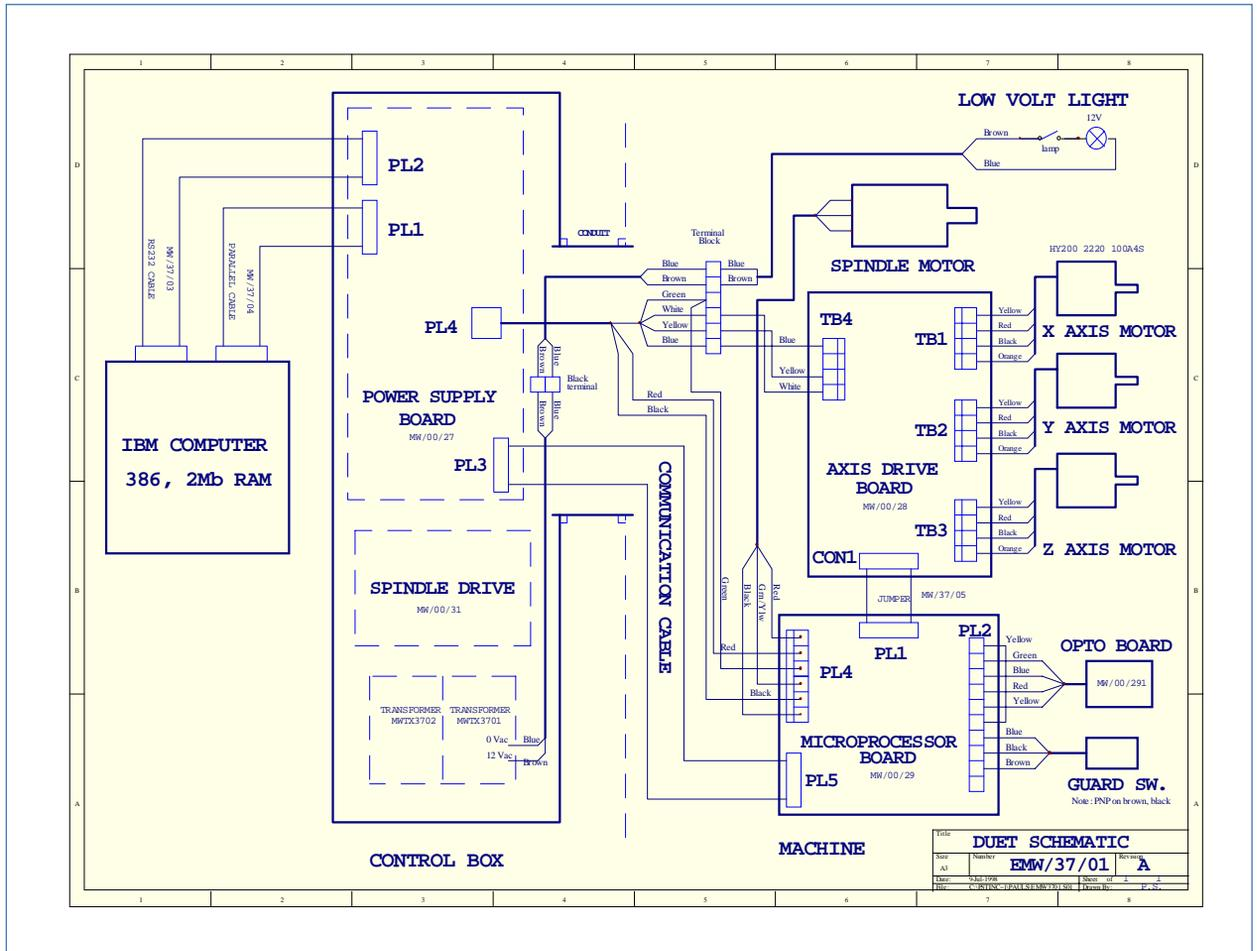

Figure 8.1 System Schematic
8.1 System Schematic (Figure 8.1)
Figure 8.1 shows the identity and location of the units comprising the control system of the DUET machine.